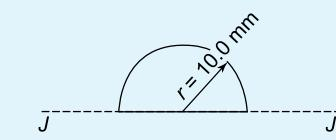

Figure 8.22
4. For the semicircle shown in Figure 8.22, find the second moment of area and radius of gyration about axis JJ.